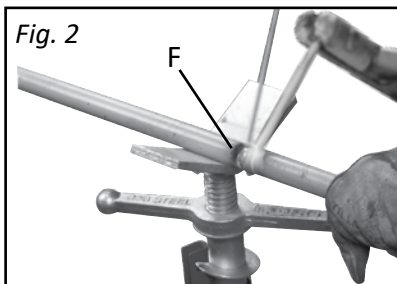

Fig. 2
2. Weld needed reach rod (*F*) together. (*Fig. 2*)